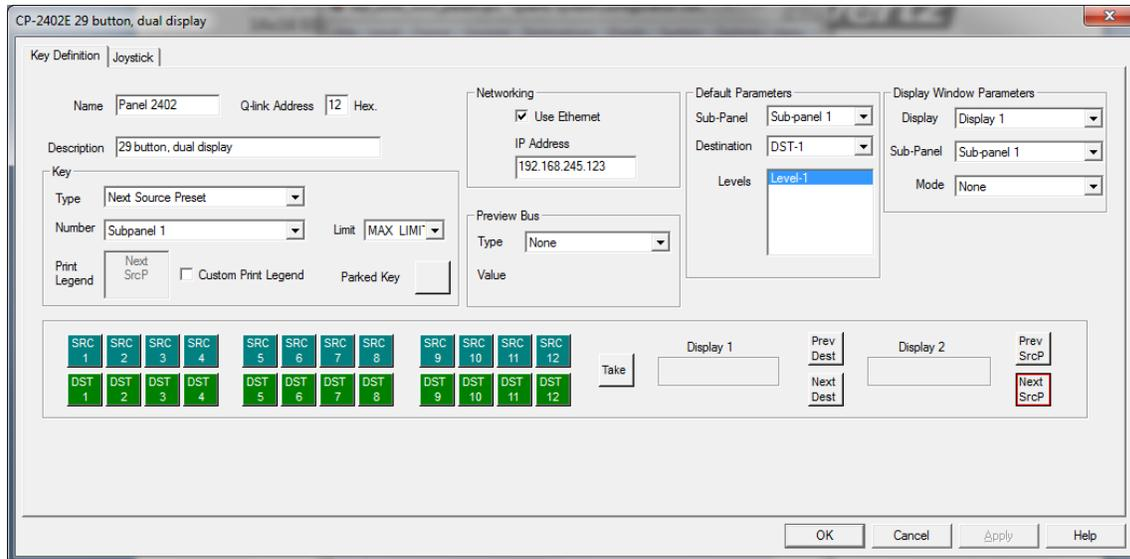

Figure 8-6 : WinSetup - Panel Configuration
- 5. Panels:** Enter the panel's dialog and use the 'New' button; this will show all Evertz panels listed by part number. Select the part number that matches the part number on the panel's serial number label. Ignore the A/E designation as the connection method for the panel that will be defined in the panel configuration dialog. Once a part number is selected, a new dialog box will appear displaying a graphic of the panel. Figure 8-6 shows the button display for the CP-2402E front control panel.